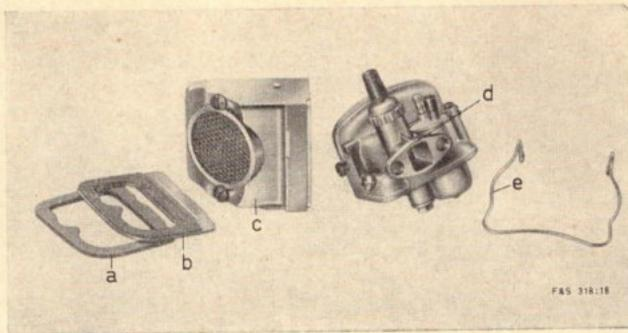

Fig. 5
Failure to clean the filter at the proper time will cause premature wear of the vital running parts of the engine. For cleaning, push up the fixing clip; the cover of the air cleaner can then easily be removed. The filter element should be thoroughly washed in petrol and then preferably be blown out with compressed air. Before replacing the filter element, wet it thoroughly with motor oil. Make sure that the carburettor gaskets **a** and **b** (Fig. 5) give a good tight fit, especially when refitting the cover **c** (Fig. 5).
- Detach the air cleaner cover **c** (Fig. 5).
Make sure that the carburettor gaskets **a** and **b** (Fig. 5) give a good tight fit